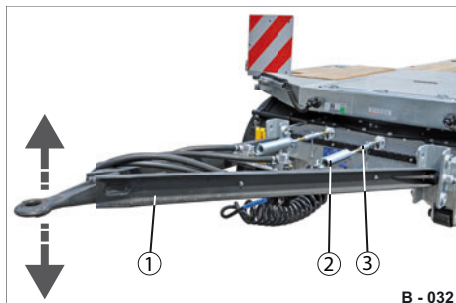

Fig. 48 Height adjustment - variety 1/2
The height of the drawbar is regulated with the two-piece adjustment mechanics (Fig. 48/3).
The tension spring (Fig. 48/2) ensures a certain clearance for deflection of the towing eye in the catcher of the coupling.
- Check the height of the drawbar (Fig. 48/1) before the uncoupling process.